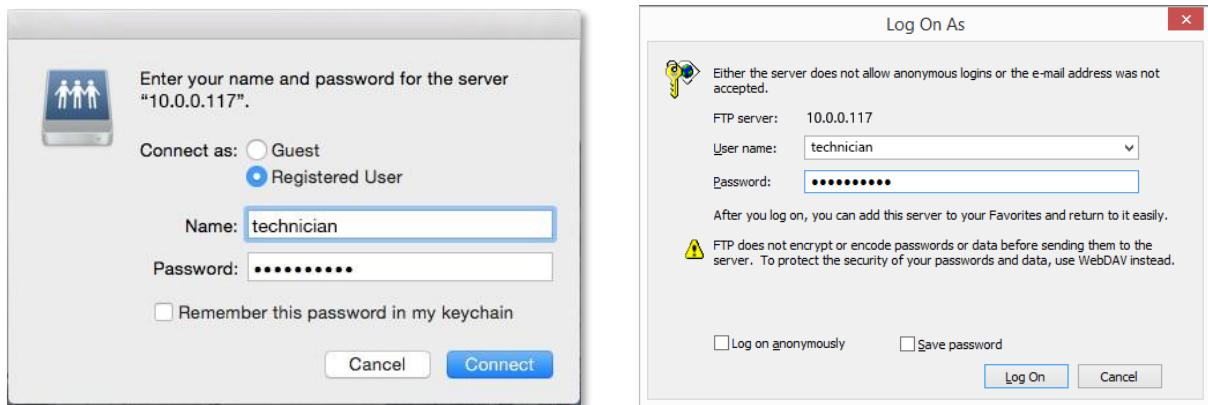

Figure 67: The FTP log on window using File Explorer (left) or Finder (right).
2. Press **Enter**. The FTP log on window will appear (**Figure 67**).